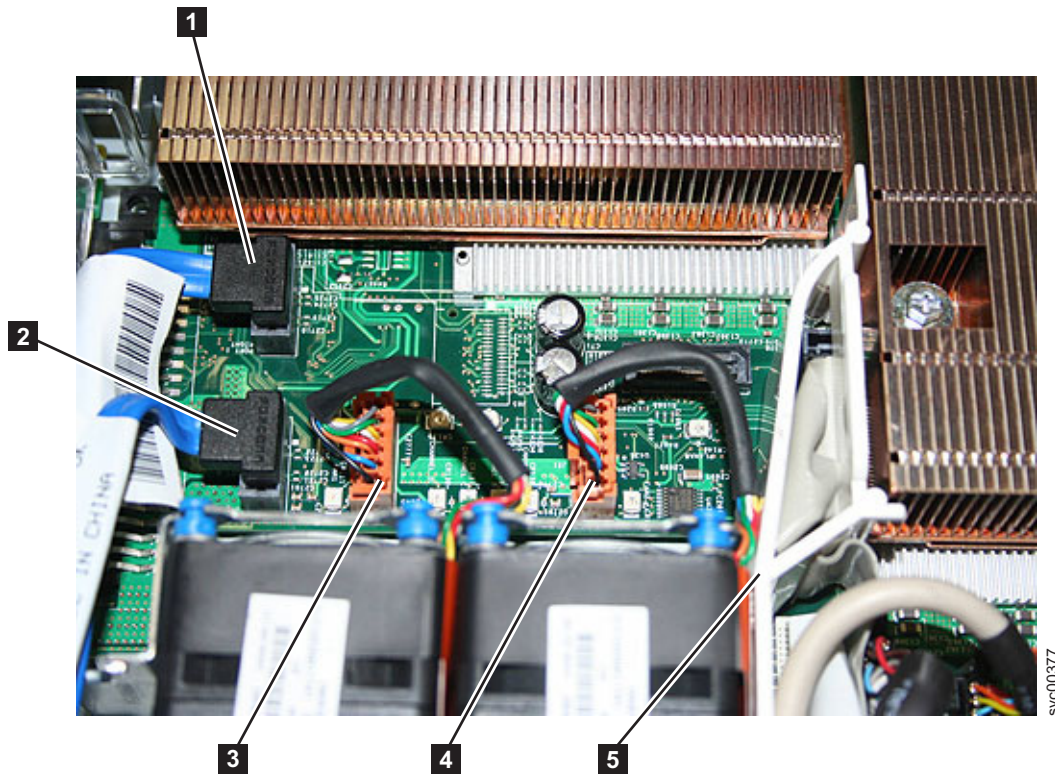

Figure 279. Connectors on the SAN Volume Controller 2145-8G4 system board
6. Disconnect the first set of cables from the system board, which are shown in Figure 279 on page 279. From the left front side of the system board, remove the following: